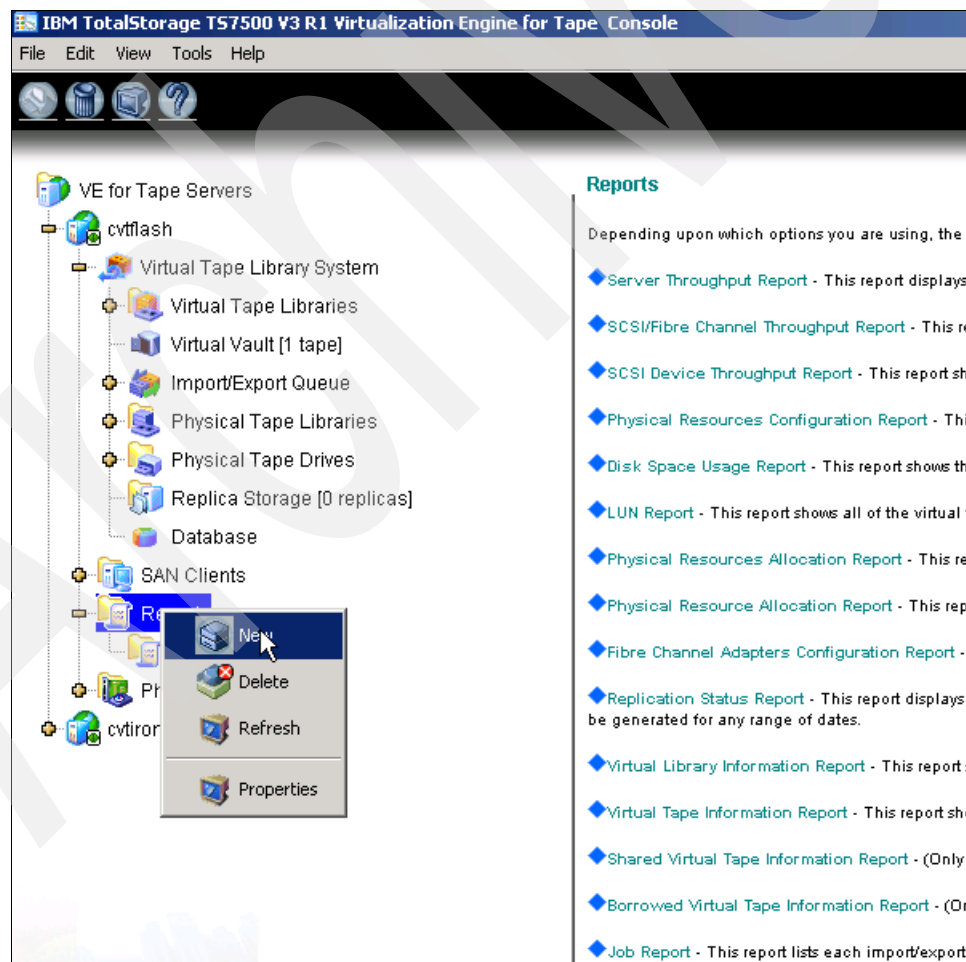

Figure 11-1 Create report
1. Use the VE for Tape Console by right-clicking **Reports** and then selecting **New** as shown in Figure 11-1.